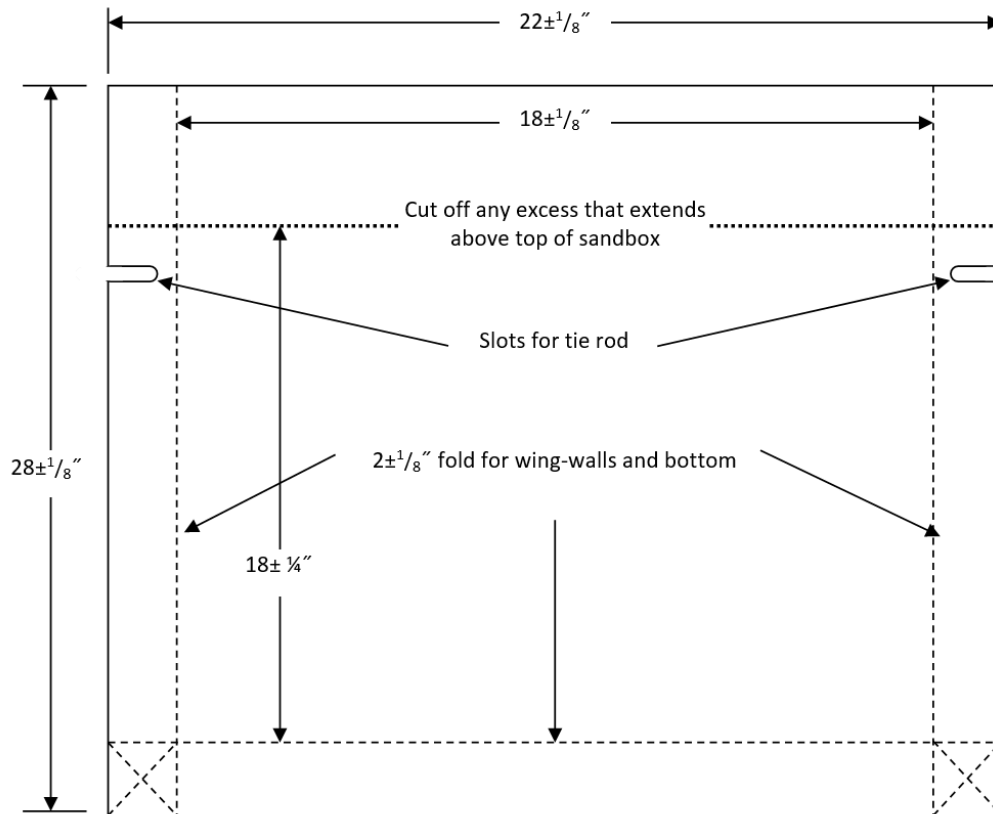

Figure 3: Dimensions of the poster board wall facing (not to scale)
- a. Facing – One piece of poster board. See Figure 3 for dimensions.
- a) **Reinforcement Fabrication Stage** – Each team will be provided with a single sheet of 60 lb kraft paper approximately 24 in × 24 in and the number of pipe cleaners declared by the team. The team must fabricate all their reinforcing elements from the sheet and pipe cleaners using authorized construction tools. Fifteen (15) minutes will be allotted for this stage. Teams will be penalized for time exceeding the time limit. After all reinforcing elements are fabricated, excess material will be disposed of and the judges will weigh the kraft paper reinforcing elements to the nearest 0.01 grams. An extra 0.5 grams will be added to the total mass of the reinforcing elements for each used pipe cleaner.
- b) **Wall Assembly Stage** – After each team's reinforcing elements have been fabricated and weighed, the team will be provided with a sheet of poster board (22 in × 28 in) and a roll of packing tape. The team must assemble their wall using these materials and authorized construction tools. Dimensions for the wall facing area shown in Figure 3.